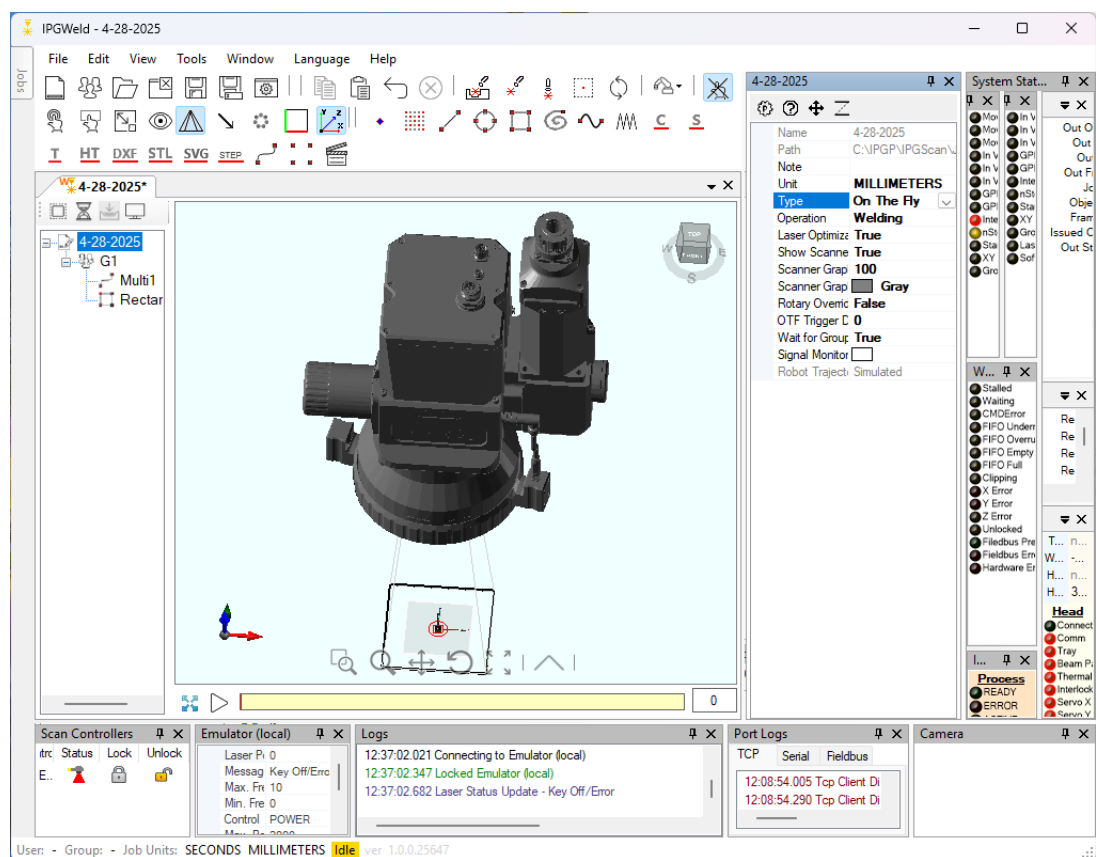

Figure 230: Creating an On The Fly Job
4. In the Properties window, change the Type parameter to "On The Fly." See Figure 230 (below).